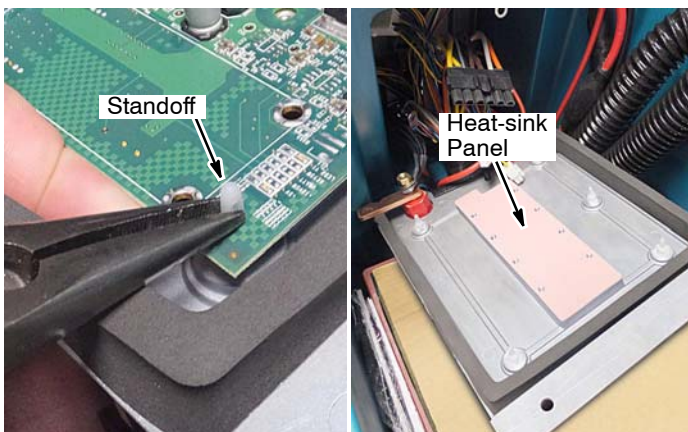

Fig. 6
8. Remove the defective control board from the heat-sink panel. The control board is mounted to the heat-sink panel with eight torque head screws and six standoffs. Squeeze the standoff flange to release control board from panel (Figure 6).